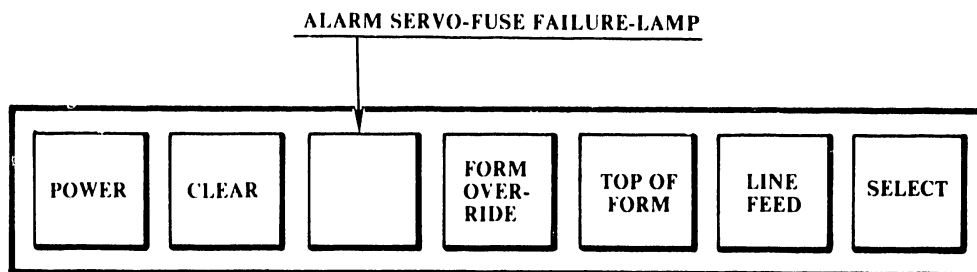

FIGURE 2-5 PRINTER'S FRONT PANEL
- 2) Depress the SELECT switch on the printer's front panel (see Figure 2-5).
3.1.1 CONTROL PANEL (REFER TO FIGURE 2-5)